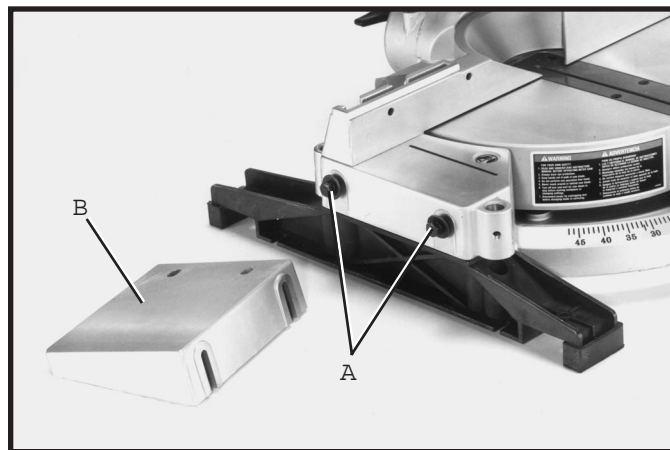
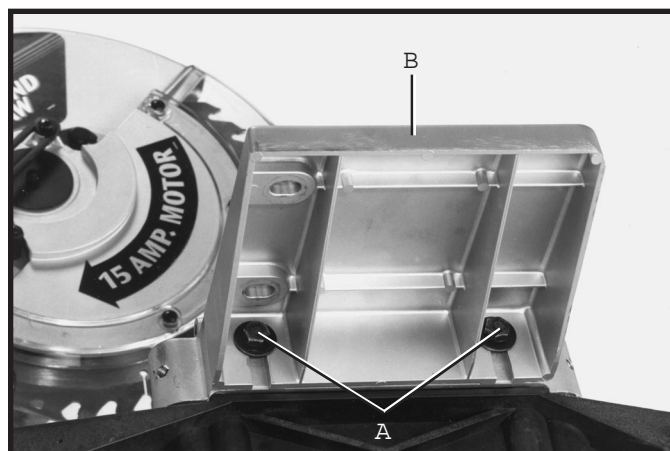
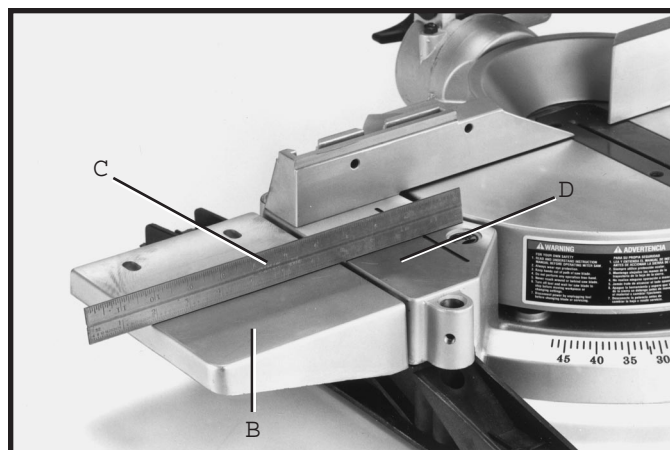

Fig. 7A
Fig. 7B
Fig. 7C
1 Place 5/16 lockwasher and 5/16 flat washer on each 1/2 long hex head screw (A) Fig. 7A, and thread the two screws (A) into the two threaded holes on left side of saw table, as shown. NOTE: Only thread the screws a few threads into the holes at this time.
2 Assemble the table extension (B) Figs. 7A and 7B, to left side of saw table making sure groove of table extension (B) is inside flat washers as shown in Fig. 7B.
3 Using a straight edge (C) Fig. 7C, make certain extension table (B) is level with saw table (D) as shown, and tighten the two screws (A) Fig. 7B.